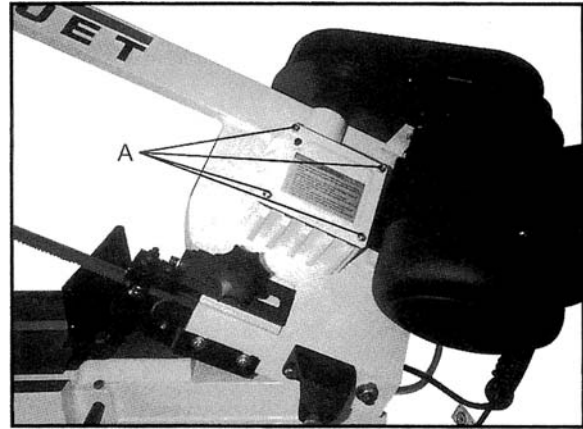

Figure 23
3. Remove screws (A, Figure 23) from gear box and remove cover plate and gasket.